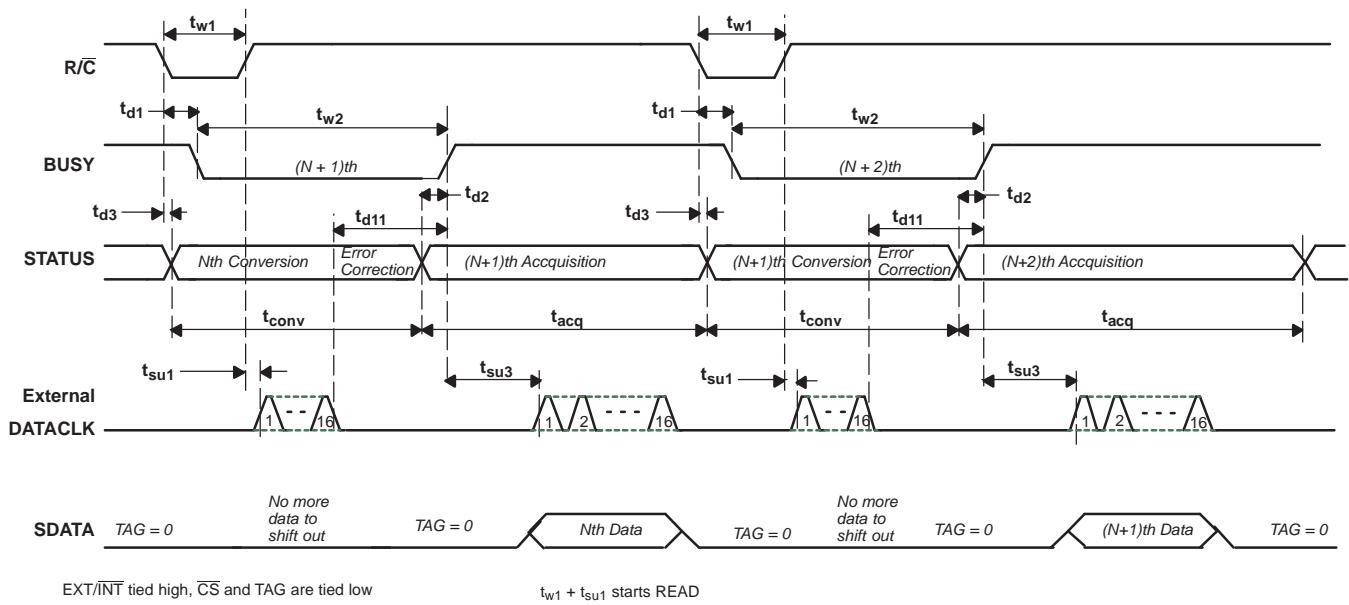

Figure 34. Basic Conversion Timing: External DATACLK
(1) See Figure 34, Figure 35, and Figure 36 for constraints on data valid from conversion *N*–1.